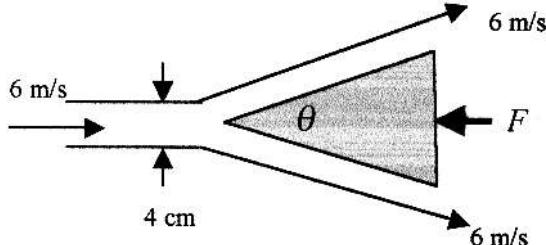

Fig. P3.30
**3.30** A wedge splits a sheet of 20°C water, as shown in Fig. P3.30. Both wedge and sheet are very long into the paper. If the force required to hold the wedge stationary is  $F = 124 \text{ N}$  per meter of depth into the paper, what is the angle  $\theta$  of the wedge?